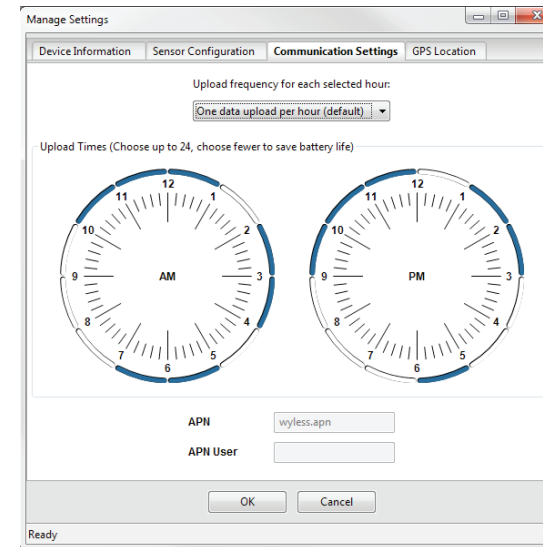

Figure 7 Communication Settings tab (EM60G only)
13. Navigate to the Communication Settings tab (Figure 7).